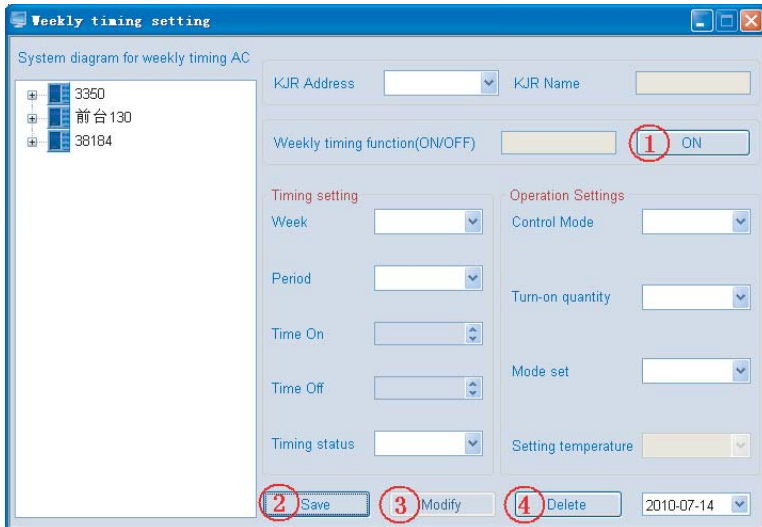

Fig.4-36
①Click “Weekly timing set” a window as Fig. 4-36 would pop up——finish the weekly schedule management setting, each wire controller represents a refrigeration system; and the existing wire controller is a wire controller has already been configured in the system.
e. Save (See the ② key in the Fig.4-36) —— Save the current settings or the modified settings.